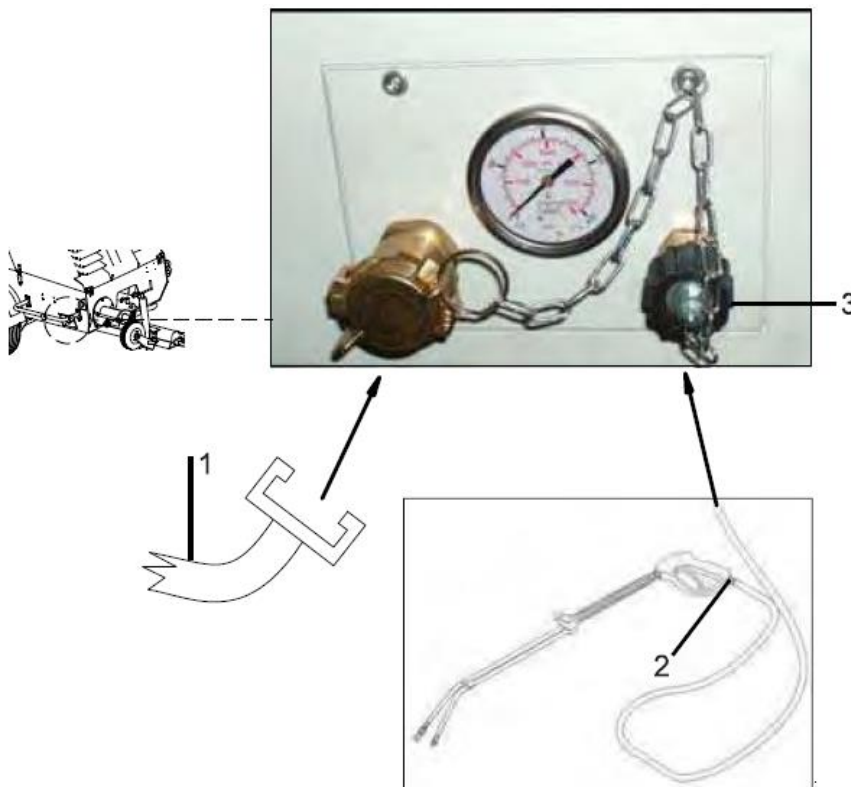

Fig. 22
*If the pressure water cleaner is present, after connecting the suction pipes (Fig. 22 Ref. 1) to a water supply with an adequate flowrate (at least 25l/mine) – **do not suck water from a drum** – and the delivery pipes, with the lance supplied (Fig. 22 Ref. 2) to the connection on the machine (Fig. 22 Ref. 3), start it with the left lever (shorter) of the distributor (Fig. 19, Ref 3) and begin washing operations. Make sure not to accidentally operate the pressure water cleaner control lever during work, by turning empty it will quickly become permanently damaged.*